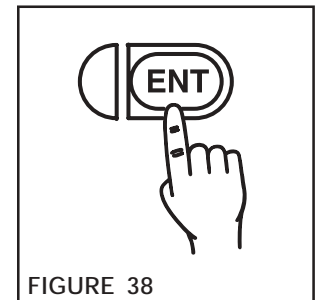

FIGURE 38
3. Press the **ENTER** Key to store the new value into memory (See Figure 38).